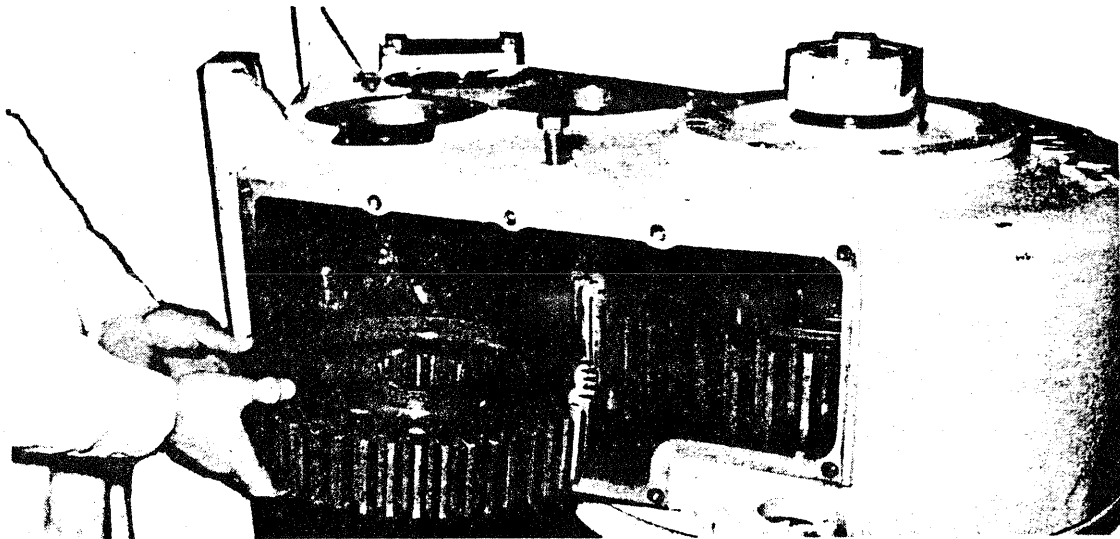

Figure 16
4. Remove intermediate gear and drum pinion as shown in Figure 16.